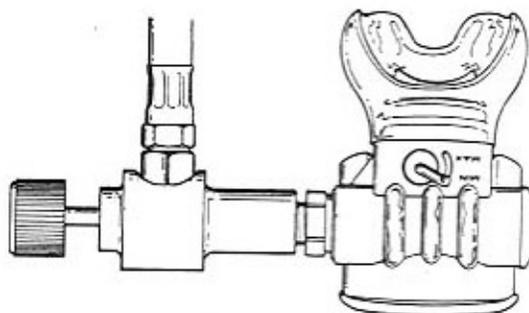

Figure 12
1. Install the two lubricated O-rings (items 28 & 29) on the intermediate-pressure hose (item 27).
2. Attach the hose (item 27) to the 1/2-inch low-pressure port on the first-stage body using an 11/16-inch torque wrench. Tighten the hose clockwise to a torque of 40-inch pounds.
4. Thread the swivel end of the intermediate pressure hose (item 27) to the Micra in-line adjustment tool (PN 1001-95) by turning the swivel nut clockwise until hand tight. Next, pull back the in-line adjustment tool handwheel to retract the adjusting split screwdriver head. Thread the second-stage regulator to the adjustment tool clockwise until handtight (figure 12).